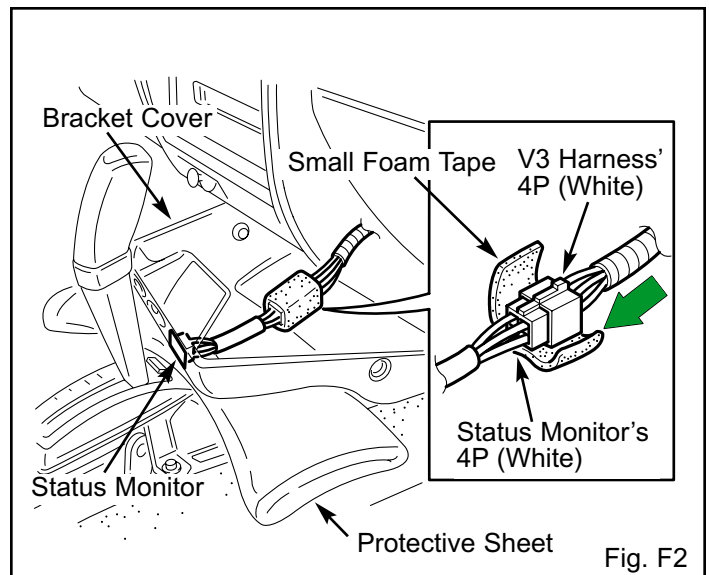

Fig. F2
3. Plug in the V3 harness' white 4P connector to the Status Monitor's white 4P connector. (Fig. F2)
4. Wrap the white 4P connectors with one small strip of foam tape. (Fig. F2)